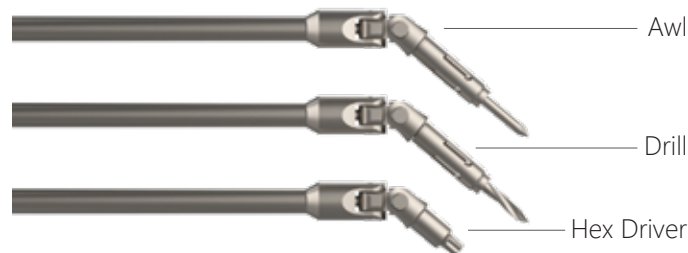

Figure 7a
- Poly Angle instrumentation includes the Self - Guided Poly Angle Awl, Self - Guided Poly Angle Drill, and Poly Angle Hex Driver (Screw Insertor) (Figure 7a).